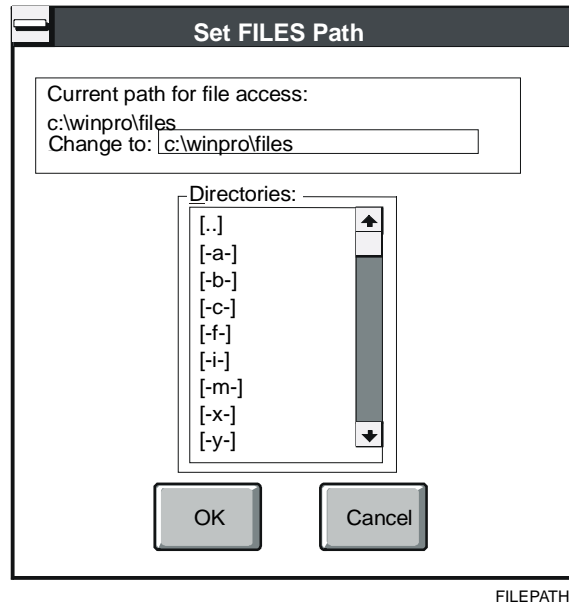

Figure 10-3: Set Files Path Dialog Box
1. On the File menu, click Set FILES Path. The Set FILES Path dialog box appears (Figure 10-3).